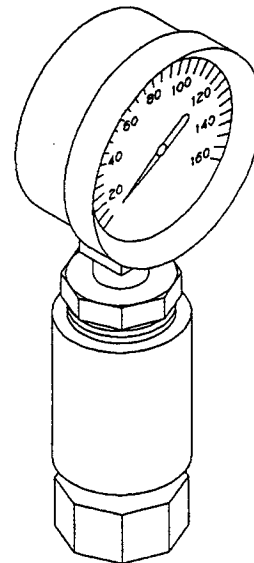

FIG. 3
- Gauge Assembly (PN 00-3044-50 or equivalent, Fig. 3)